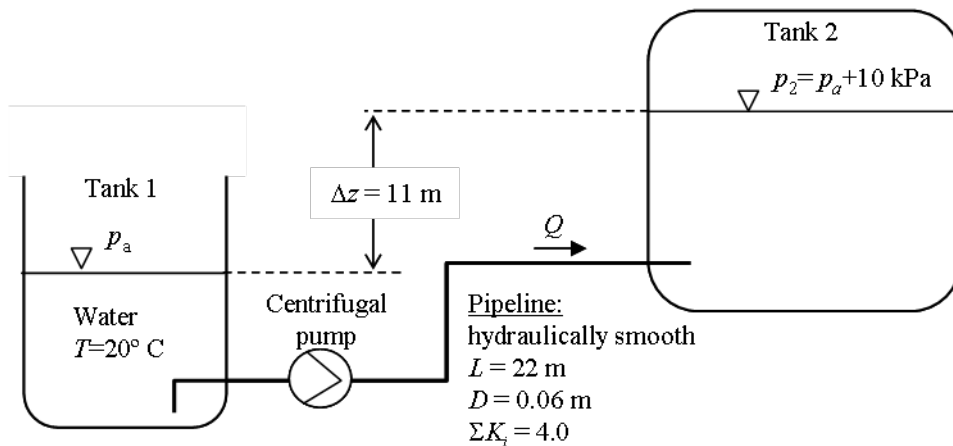
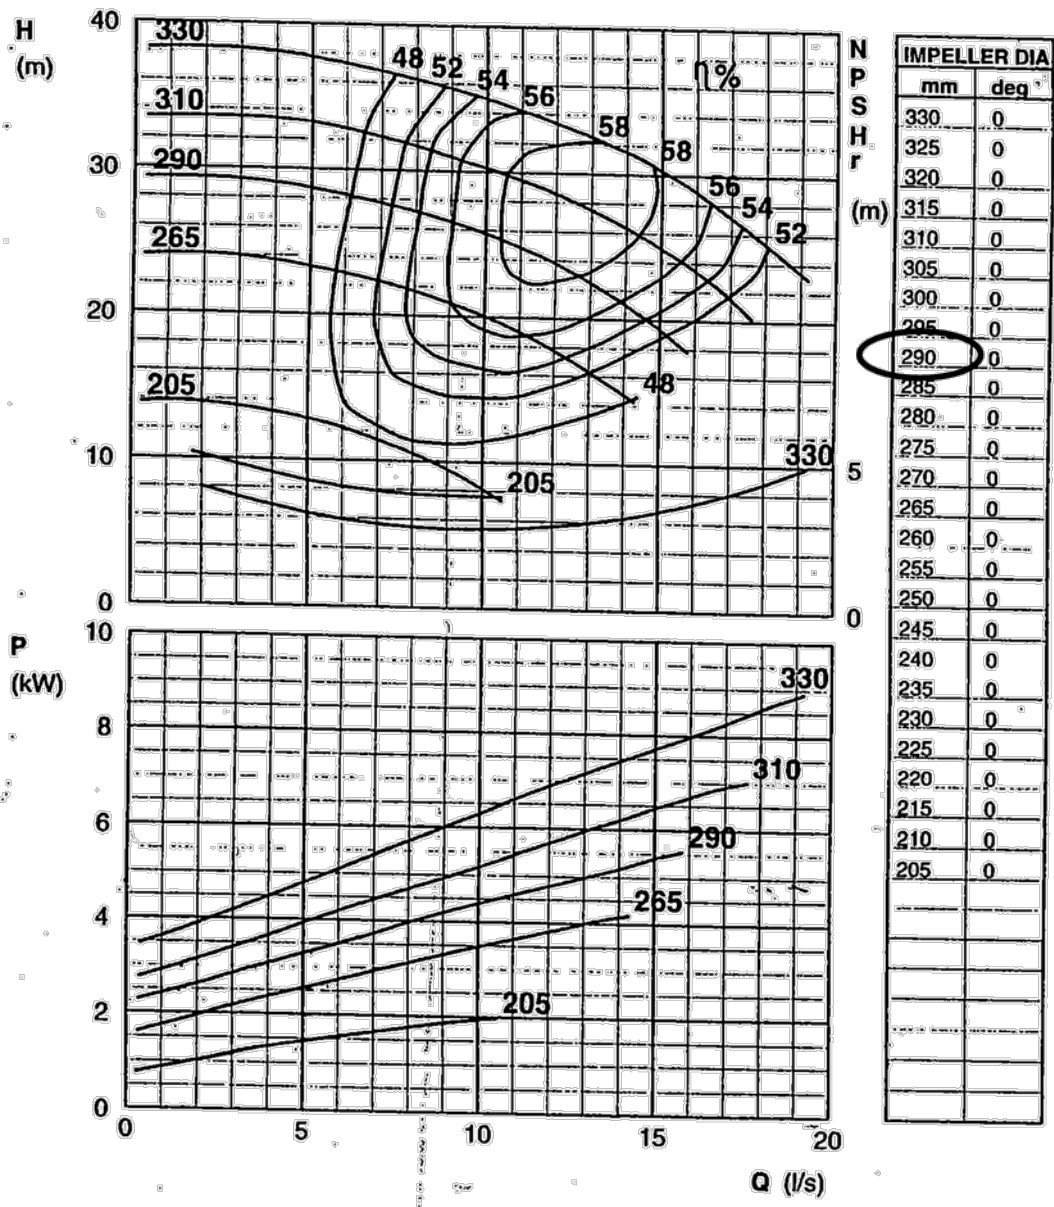

Figure 3
Figure A1: Characteristic curves of the centrifugal pump
A centrifugal pump is used to pump water at temperature 20°C from tank 1 to tank 2 through a pipeline (see Figure 3). Both tanks are 'large' and water surface level in tank 2 is 11 m higher than in tank 1. Tank 1 is open to atmosphere while tank 2 is closed and the pressure of the gas above water surface is 10 kPa higher than atmospheric pressure. The pipe is hydraulically smooth, its length $L = 22$ m and diameter $D = 60$ mm. The sum of loss coefficients of all minor losses in the pipeline is $\Sigma K_i = 4.0$. The impeller diameter of the pump is 290 mm. The characteristic curves of the pump are given in Figure A1 of the answer sheet.
- Sketch the characteristic curve of the pipeline (system curve) in the pump performance diagram given in Figure A1. Use the partially filled table (Table A1) in the answer sheet in tabulating the numerical values needed,
Table A1: Calculation of the characteristic curve of the pipeline: Mark the symbols of the quantities (intermediate results) that you need on the heading row and tabulate their numerical values at flow rates Q given in the first column. (You may not need all the columns, though). Use no more than three significant digits. Plot the resulting characteristic curve in Figure A1
Values at operating point (obtained graphically from Figure A1):